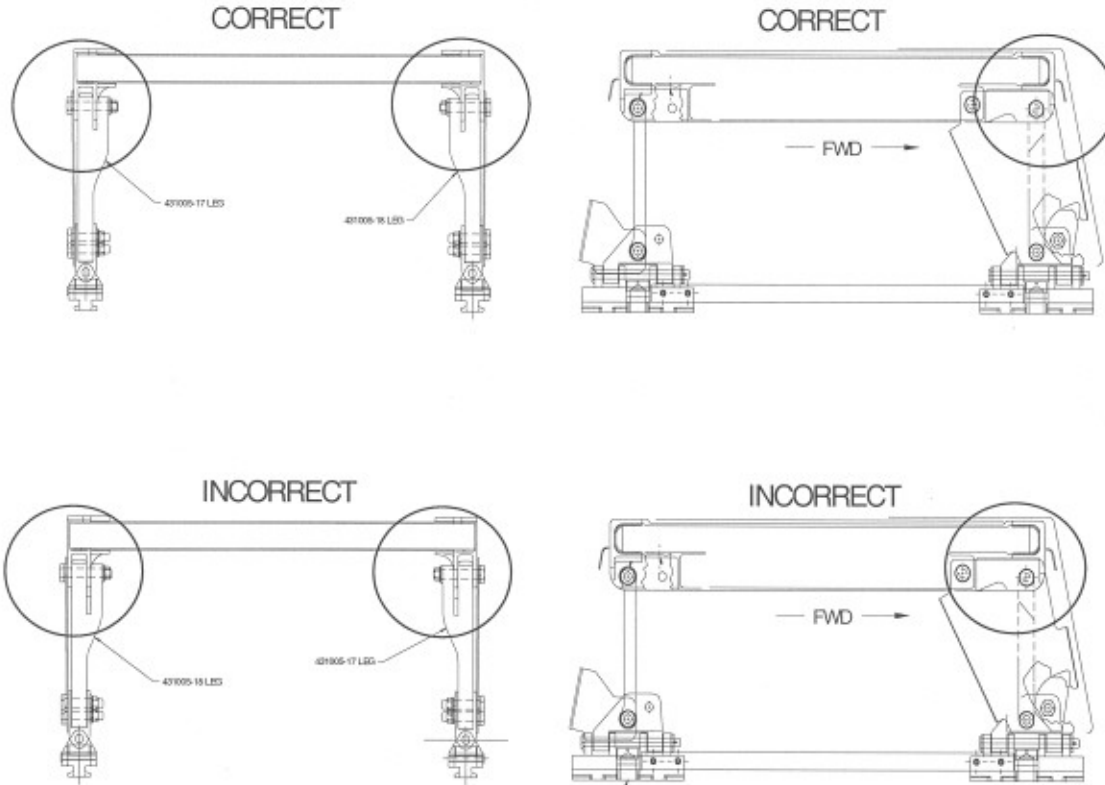

Fig 2 Leg Orientation
A: Added reference "note" to instructions. Added figures 2 and 3.
B: Replaced photos figure 2 and 3 with illustration figure 2. Revised A(6) and B(6) to refer to figure 2. Deleted A(7) and B(7) requiring DASC completion form
1. Remove bolts (70), (130), (180), washers (90), (150), (200), nuts (80), (140), (190) and remove gusset (160).
2. Remove and discard leg (110) and install leg 431005-17.
4. Remove bolts (220), (280), (330), washers (240), (300), (350), nuts (230), (290), (340) and gusset (310).
5. Remove and discard leg (260) and install leg 431005-18.
***NOTE:** See Figure 2. Remove the pedestal shroud. Examine the two solid aluminum legs that are in the forward position relative to the aircraft. The legs are installed **CORRECTLY** if the length of the slot on the top of the leg is *shorter on the forward side* as compared to the length of the slot on the aft side of the leg. The legs are installed **INCORRECTLY** if the length of the slot on the top of the leg is *longer on the forward side* as compared to the length of the slot on the aft side of the leg.
2. Remove and discard leg (110) and install leg 431005-18.
5. Remove and discard leg (260) and install leg 431005-17.